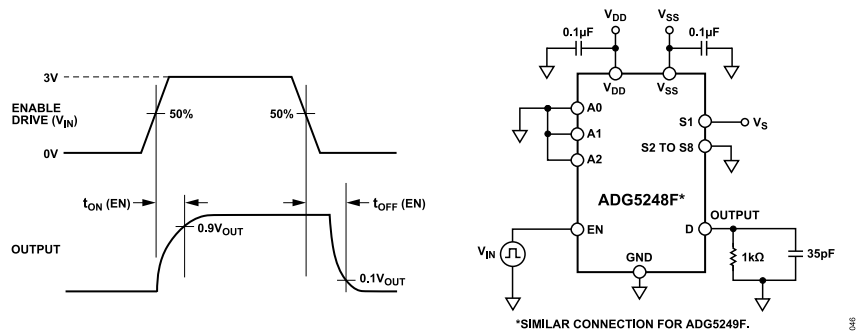

Figure 49. Enable Delay, $t_{ON} (EN)$, $t_{OFF} (EN)$
t_{ON} (EN) represents the delay between applying the digital control input and the output switching on (see Figure 49).
t_{OFF} (EN) represents the delay between applying the digital control input and the output switching off (see Figure 49).